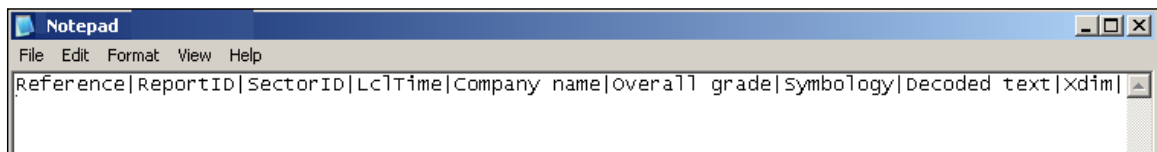

Figure 39: Parameter names delimited by vertical bars
67. Open Notepad or WordPad and type the desired parameters in the order you wish them to appear on the Reference Report. Delimit parameter names using vertical bars “|” without spaces between parameters and the vertical bars (Figure 39).